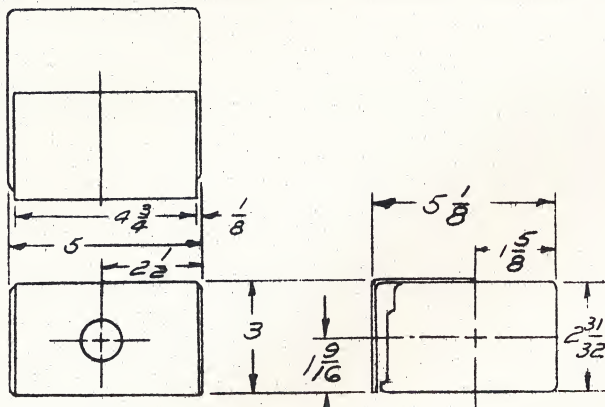
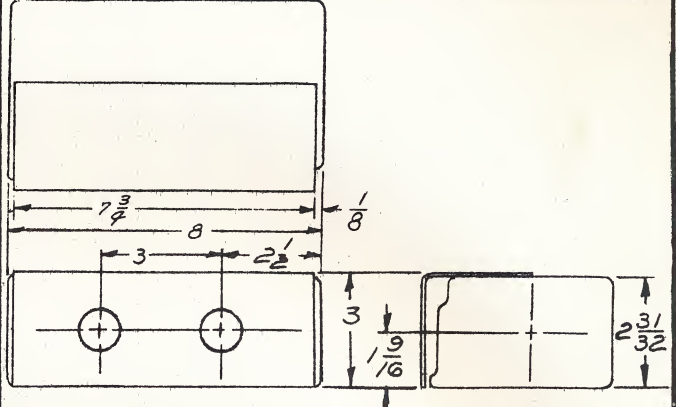
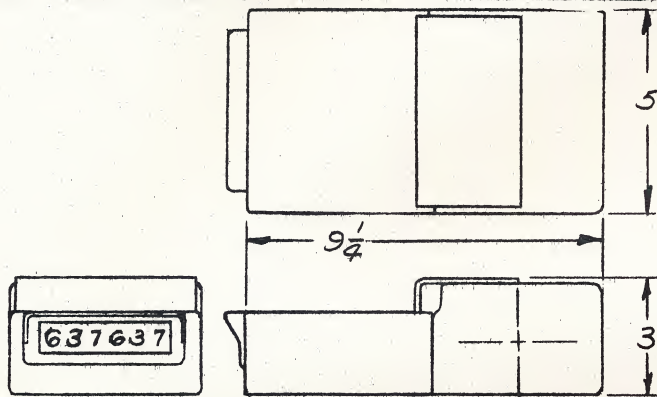

Fig. 3. Character Generator Module. 4-6 Digits.
Fig. 4. Character Generator Module. 7-12 Digits.
Fig. 5. Complete system with straight line, rear projection viewing scheme.
The Datastrobe system is broken into three modules, two of which are always required, one of which may be part of a customer's equipment. These modules are (1) character generator, (2) electronics logic and (3) the viewing screen unit. The front illustration shows the complete system, consisting of all three of these units assembled. However, the breakdown into the three modules permits a great flexibility in installation and integration in customer equipment. Figure 3 shows the outline dimension of the character generator which is identical for 4 to 6 digits. Figure 4 displays a model which covers 7 to 12 digits. Figures 5 through 8 show various arrangements for the viewing screen unit. Figure 5 shows the outline of the direct rear projection screen system. The length dimension will vary somewhat with character size.